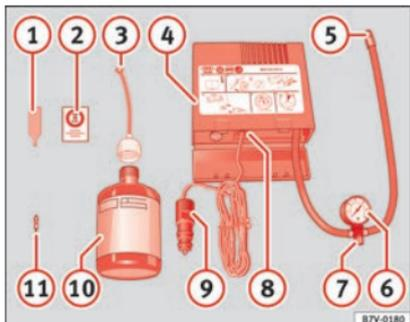

Fig. 60 Standard representation: Contents of the tyre mobility system.
- Unscrew the tyre valve cap and insert. Use the » Fig. 60 ① tool to remove the insert. Place it on a clean surface.
- Shake the tyre sealant bottle vigorously » Fig. 60 ⑩.
- Screw the inflator tube » Fig. 60 ③ into the sealant bottle. The bottle's seal will break automatically.
- Remove the lid from the filling tube » Fig. 60 ③ and screw the open end of the tube into the tyre valve.
- Place the insert back into the tyre valve using the tool » Fig. 60 ①.
- Screw the compressor tyre inflator tube » Fig. 60 ⑤ into the tyre valve.
- Check that the air bleed screw is closed » Fig. 60 ⑦.
- Insert the connector » Fig. 60 ⑨ into the vehicle's 12-volt socket » page 138.
- Turn the air compressor on with the ON/OFF switch » Fig. 60 ⑧.